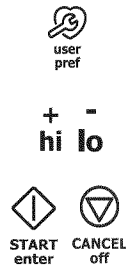

Figure 13: Audio level adjust on (L) or off (R)
The factory audio setting is preset to level 5 (Figure 13). The volume can be adjusted for lower levels from 5 through 1, or it can be turned off for a silent control setting (Figure 13).
1. Press **user pref** until **AUD 5** appears (Figure 13).